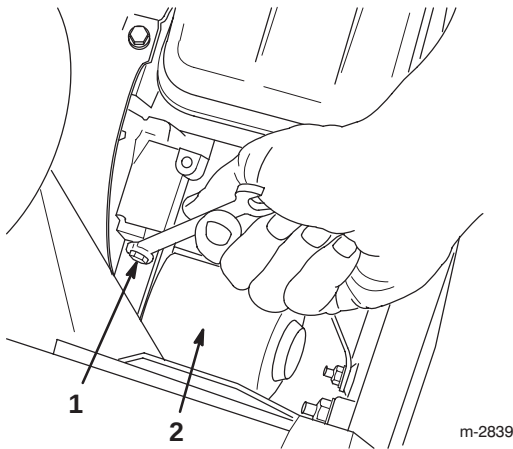

Figure 5
1. Remove the upper starter motor mounting bolt (Fig. 5).
- Install and tighten the upper and lower starter motor mounting bolts (Figs. 5 and 6).